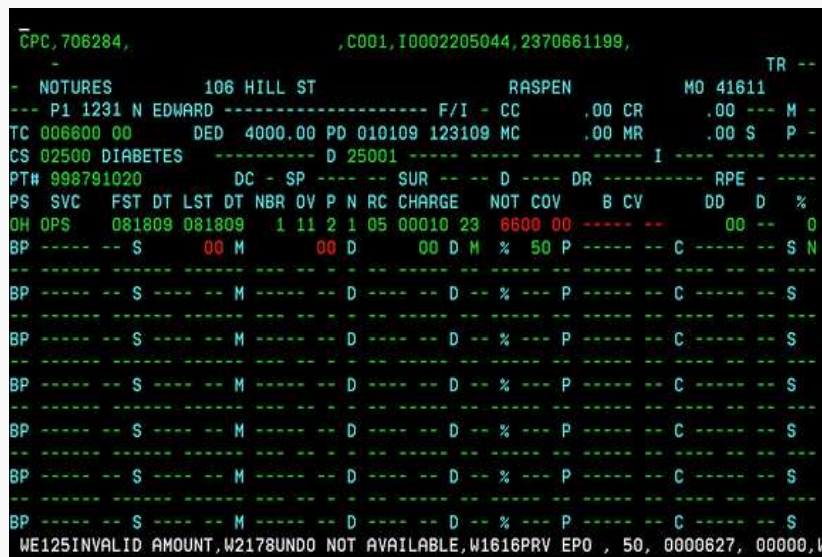
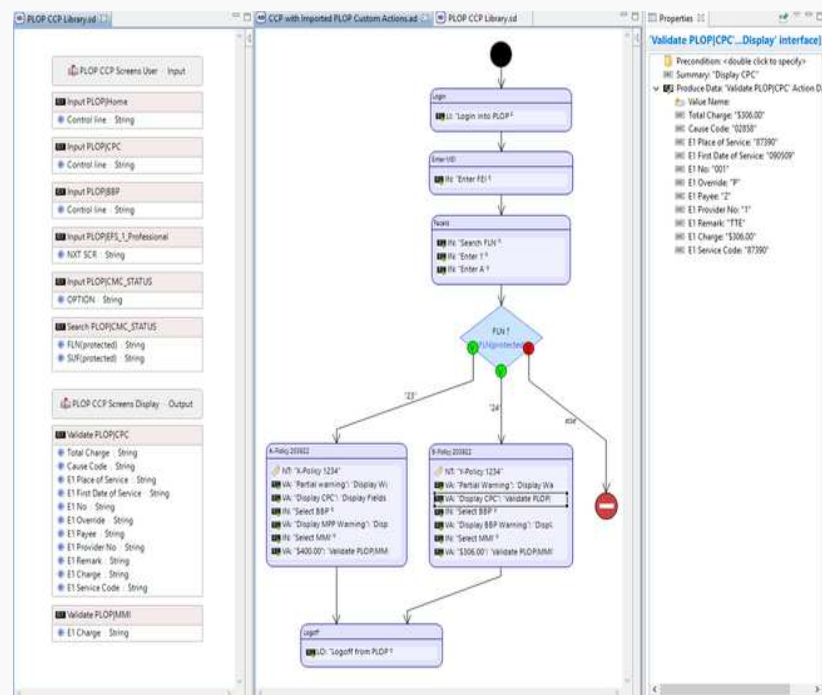

FIG.1 OBFUSCATED EXAMPLE SCREEN OF APPLICATION UNDER TEST
FIG. 2 CREATOR EXAMPLE MODEL
From mainframe screen capture like is shown below in Figure 1, the interface available for testing the functionality to be tested was identified and the links to the test data needed to generate data driven test cases were included in a graphical model of the application's operation. A sample model illustrating the captured interactions via the mainframe in a Structure Diagram (SD) and an Activity Diagram (AD) using these interactions is shown in a Creator screen shot in Figure 2 below.
The Activity Diagram shown in Figure 2 was created by creating flows of the application logic, specifying activity nodes based on interactions with the application under test, i.e., by dragging and dropping input or verification actions from the imported mainframe interface, and splitting flows based on data injected by input actions. The Creator test generation engine then understood and analyzed the flow and actions against the linked test data then used the user selected test optimization method to generate the optimized number of tests that cover all the application included in the model - both the positive and the negative test case flows. This ensured complete test coverage and, with the reporting tools within Creator, the coverage of each test case was shown as a highlighted path through the activity diagram. Also shown was the traceability matrix so each test case was linked with the requirement(s) it covered.